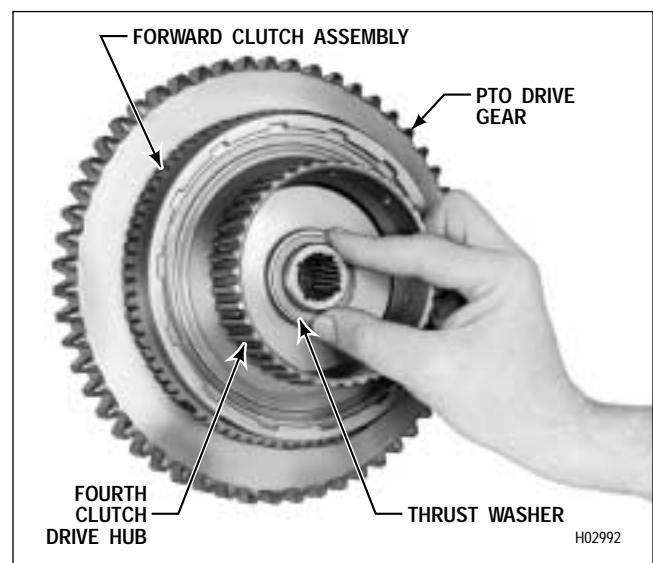

Figure 7-22. Installing Thrust Washer at Rear of Forward Clutch Hub
(1) Install the thrust washer onto the hub of the forward clutch assembly, retaining it with oil-soluble grease (Figure 7-22).
(2) Install forward clutch and turbine shaft assembly. The hub splines engage the transmission main shaft. The splines on the fourth clutch drive hub engage the internal splined plates of the fourth clutch.
(3) Rotate the forward clutch assembly one or two revolutions, while pushing it downward. Make sure all the fourth clutch internal-splined plates are engaged.
- For models with retarder, proceed with Step (4).
- For models without retarder, skip Step (4) and proceed with Paragraph 7-8.